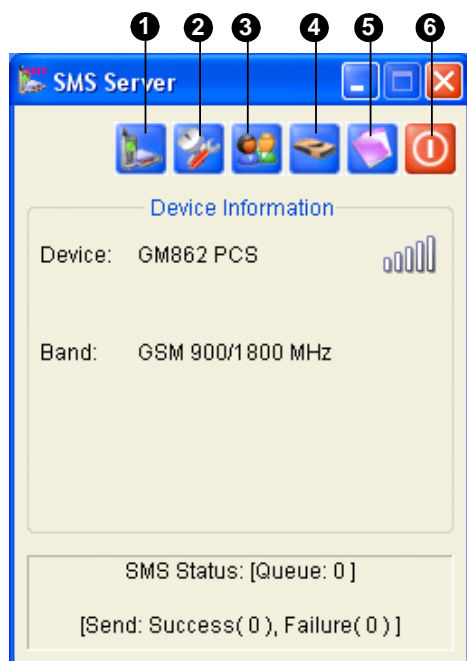

Figure 10-1 The SMS Server Window
1. Click the **Device Setting** button (No. 5, Figure 10-1), and then select **GSM Module**. This dialog box appears.
Click the **Server Setting** button (No. 4, Figure 10-1) to display the following Server Setting dialog box. There are three major tabs in the dialog box: (1) General, (2) Message Filter, and (3) Notify
Click the **Account Setting** button (No.3, Figure 10-1) to display the following window.
Click the **SMS Log Setting** button in the SMS Server window (No. 2, Figure 10-1), and select **SMSLog Setting** to display this dialog box.